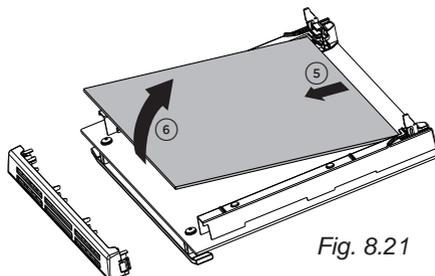

Fig. 8.21
- Gently lift and pull out the middle pane of glass by releasing it from the bottom retaining notches (fig. 8.21).